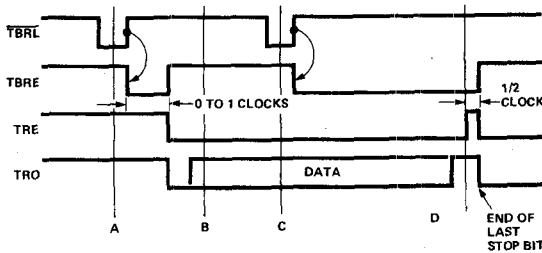

FIGURE 7. Transmitter Timing (Not to Scale)
Transmitter timing is shown in Figure 7. (A) Data is loaded into the transmitter buffer register from the inputs TBR1 through TBR8 by a logic low on the  $\overline{\text{TBRLoad}}$  input. Valid data must be present at least  $t_{DS}$  prior to and  $t_{DH}$  following the rising edge of  $\overline{\text{TBRLoad}}$ . If words less than 8 bits are used, only the least significant bits are used. The character is right justified into the least significant bit, TBR1. (B) The rising edge of  $\overline{\text{TBRLoad}}$  clears  $\text{TREmpty}$ . 0 to 1 clock cycles later, data is transferred to the transmitter register,  $\text{TREmpty}$  is cleared and transmission starts.  $\text{TREmpty}$  is reset to a logic high. Output data is clocked by  $\text{TRClock}$ , which is 16 times the data rate. (C) A second pulse on  $\overline{\text{TBRLoad}}$  loads data into the transmitter buffer register. Data transfer to the transmitter register is delayed until transmission of the current character is complete. (D) Data is automatically transferred to the transmitter register and transmission of that character begins.